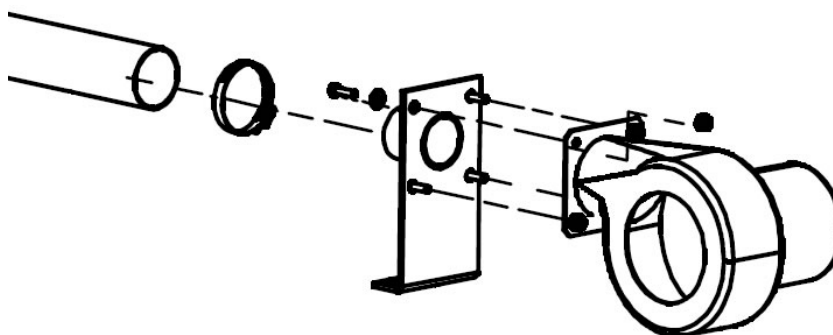

Figure 4, Blower Assembly
13. Attach the Blower Motor to the Hand Dryer Bracket using 10-32 screws (7016-411032-075), 7/32 x 1/2 x 3/64 flat washers (7050-021050-006), and 10-32 nylon lock nuts (7036-001032-000). See Figure 4.
14. Attach the hose (P-0880-20-1) to the Hand Dryer Bracket using the hose collar (302-4620-00). See Figure 4.